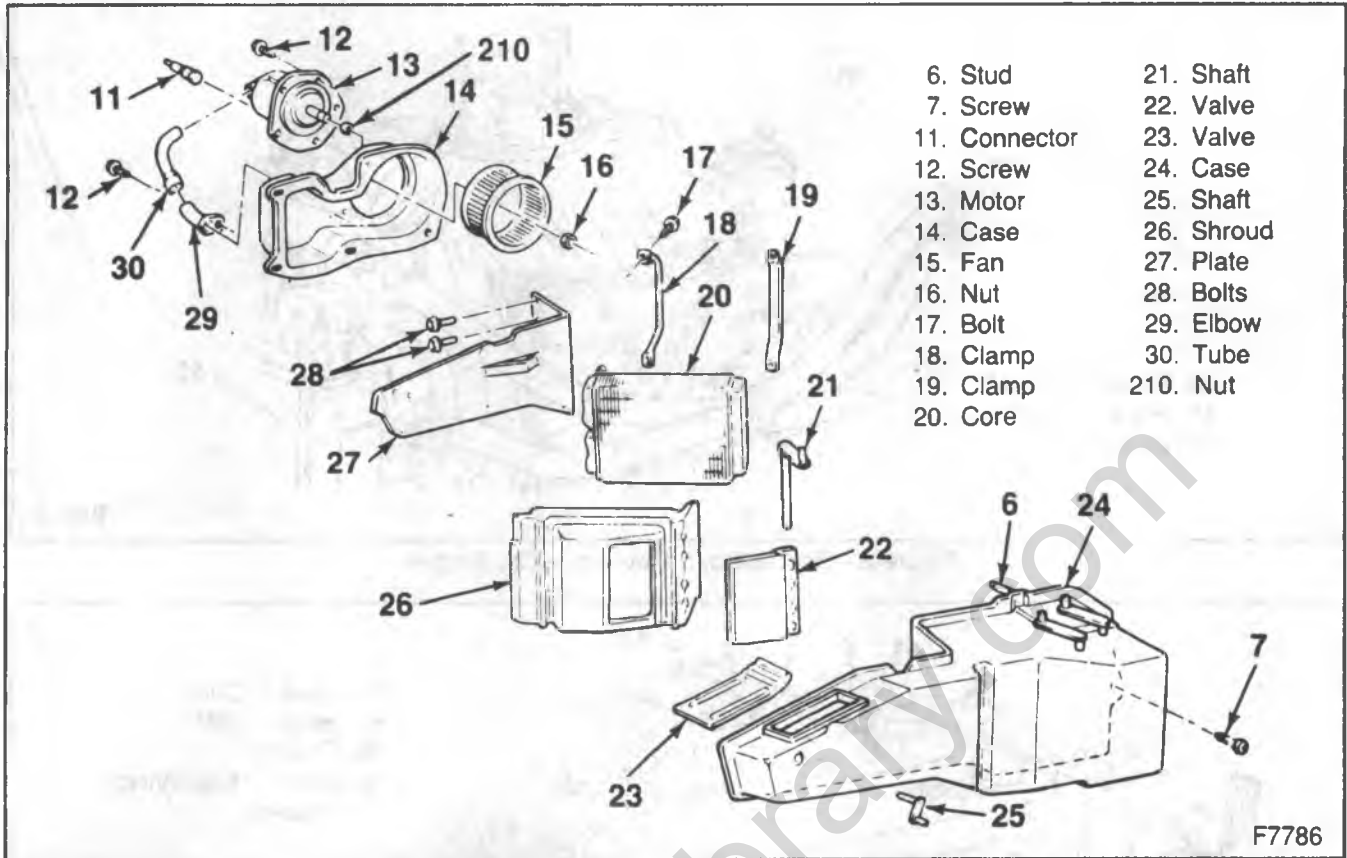

Figure 6—Blower Motor Assembly—Component View—R/V
4. Motor (13) and fan (15) assembly (figure 6).
5. Shaft nut (16).
6. Fan (15) from the motor (13).
7. Nut (210) from motor (13).
↔ Remove or Disconnect (Figures 6 through 12)
2. Heater hoses (40 and 41) at the core tubes (20) (figures 6, 7, 8, and 9).
3. Screws and nuts (8) from the studs (6) that project into the engine compartment (figures 6 and 10).
Install or Connect (Figures 6 through 12)